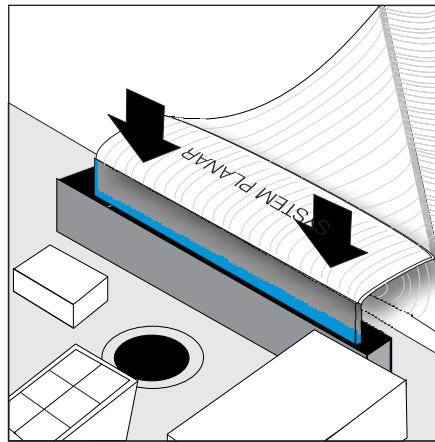

Figure 255. Installing the service controller cable into the system board
12. *Carefully* install the end of the ribbon cable (marked System Planar) to the system board, being sure to install the cable straight in, as shown in Figure 255 on page 585. Be sure to verify that the blue line on the cable connector end is not visible.